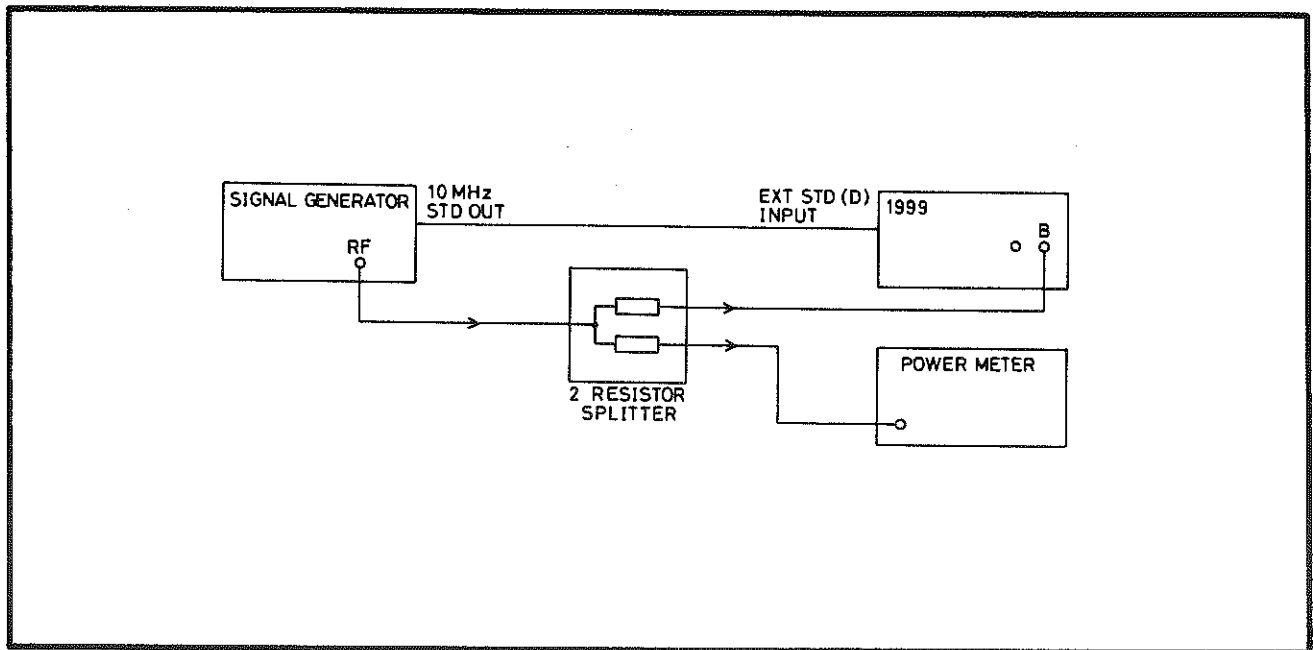

Fig 7.16 Connections for Low-Level Inhibit Threshold Adjustment
- 48 Connect the test equipment as shown in Fig 7.16.